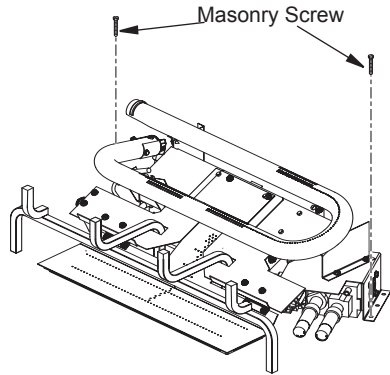

Figure 12 - Attaching Base to Fireplace Floor
3. Mark screw locations through holes in front panel of base (see Figure 12). If installing in a brick-bottom fireplace, mark screw locations in mortar joint of bricks.
6. Attach base, through holes in back side panels of base, to fireplace floor using masonry screws provided in hardware package (see Figure 12).